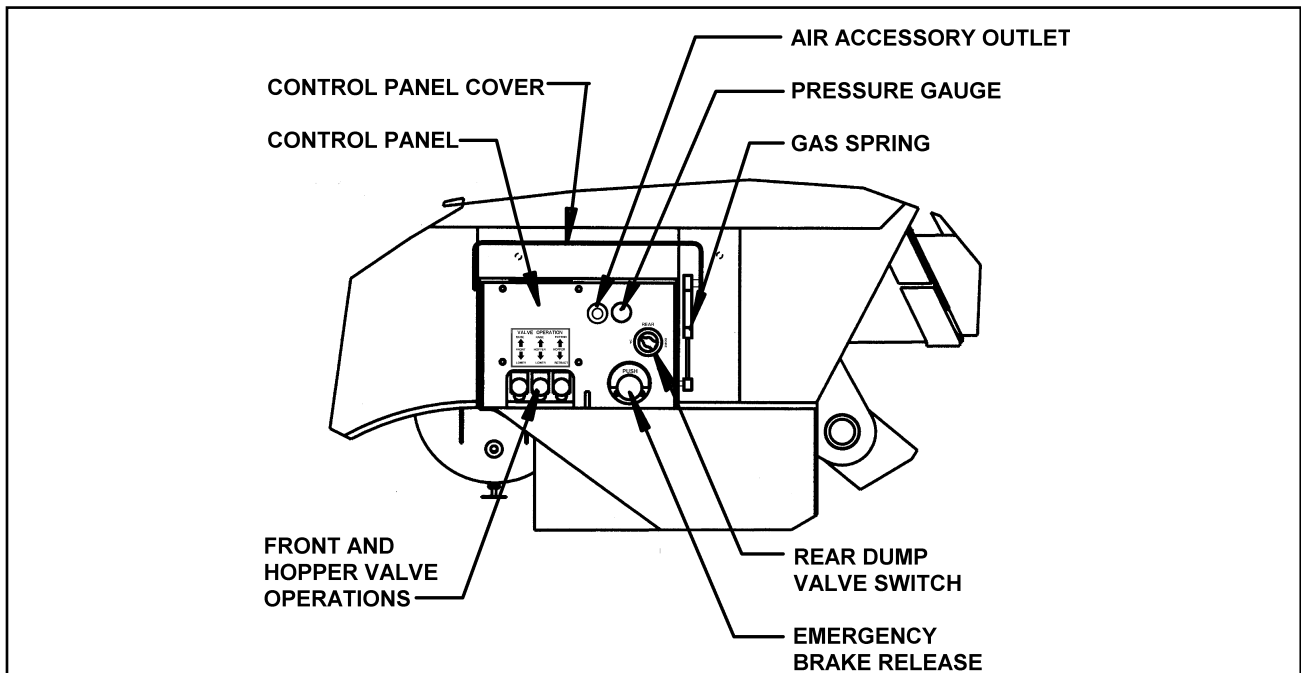

Figure 3-3 Control Panel
- 3-5.1 On the control panel at the rear of trailer, locate the switch marked REAR (See Figure 3-3). Turn the switch counterclockwise to the position marked UP. This will inflate the air springs on the suspension and raise the rear of the trailer off the ground. Note that the hinged bumper will also come up. When the trailer has reached the proper ride height, the air springs will automatically stop inflating.
3-10.2 Lower the rear of the trailer to the ground by turning the switch marked REAR on the control panel at the rear of the trailer clockwise to the DOWN position. Note that the hinged bumper will rotate downward as the frame lowers (**See Figure 3-3**).
3-12.1 The height of the hopper at the rear of the trailer may be raised or lowered by operating the valve lever marked HOPPER - RAISE/LOWER on the control panel at the rear of the trailer **(See Figure 3-3)**.
3-12.2 The hopper can also be extended up to 30" from the rear of the trailer by operating the valve lever marked HOPPER - EXTEND/RETRACT on the control panel at the rear of the trailer **(See Figure 3-3)**.
3-13.1 The spring brakes may be manually released to allow the trailer to be moved around the jobsite without the aid of a tractor. Push and hold momentarily the knob on the control panel marked "EMERGENCY BRAKE RELEASE" **(See Figure 3-3)**. Doing so will allow air pressure from the trailer reservoir to release the spring brakes. Pulling the knob out will dump this air, engaging the spring brakes. If left in the "IN" position, the valve will automatically reset (pop out) once a tractor is coupled to the trailer.